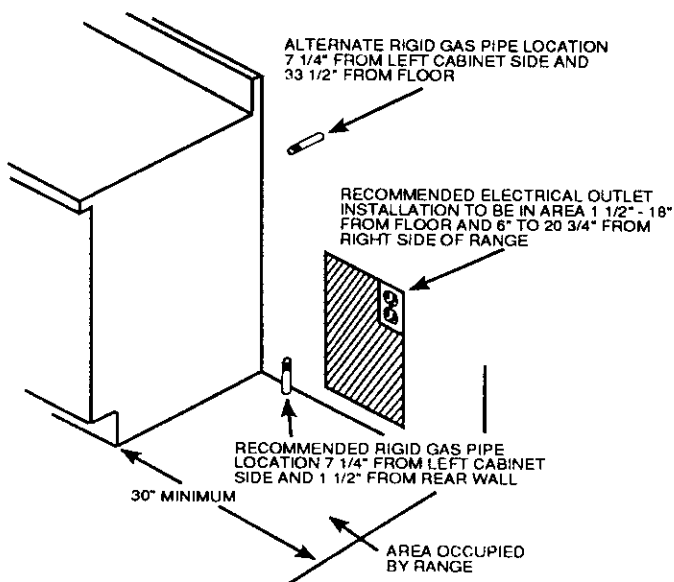

Fig. 1
- Recommended location for the gas inlet pipe and electrical outlet are shown in Figure 1.